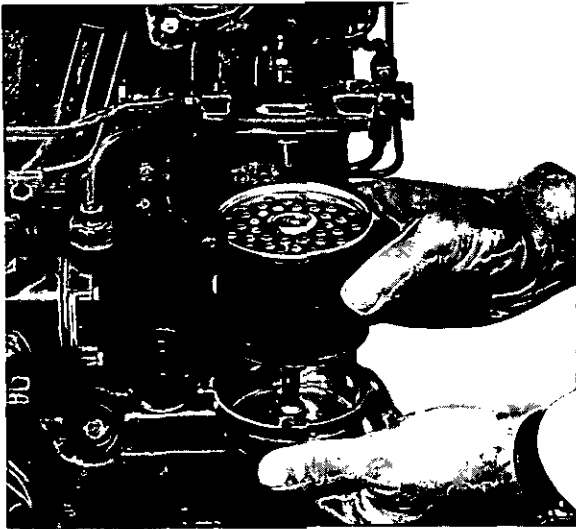

Fig. L.2
2. Drop filter bottom cover clear (Fig. L.2).